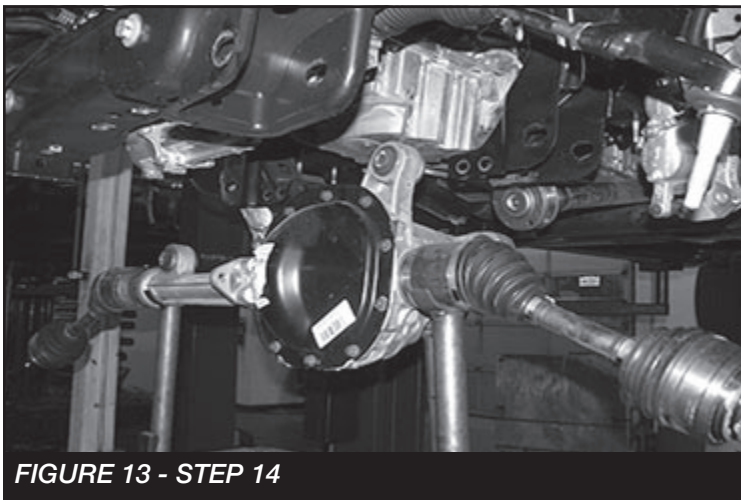

FIGURE 13 - STEP 14
14. Supporting the differential, remove the 3 differential mount bolts and save for re-installation. Remove the differential from the vehicle. **SEE FIGURE 13**